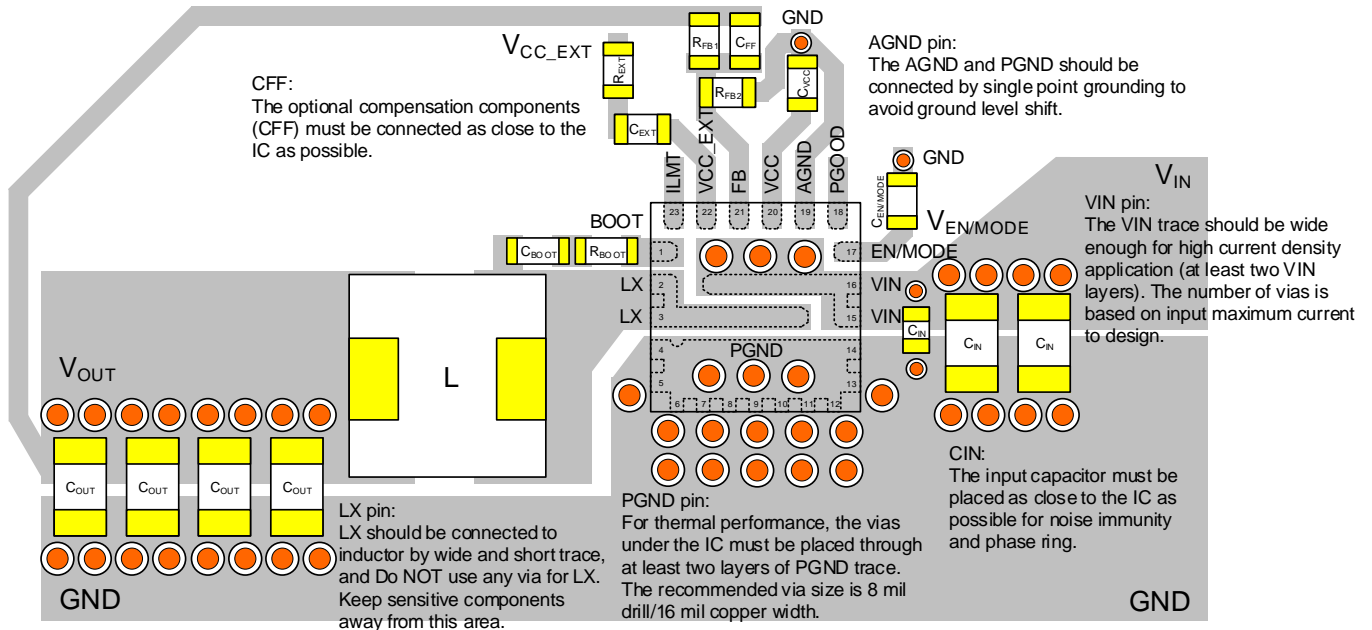
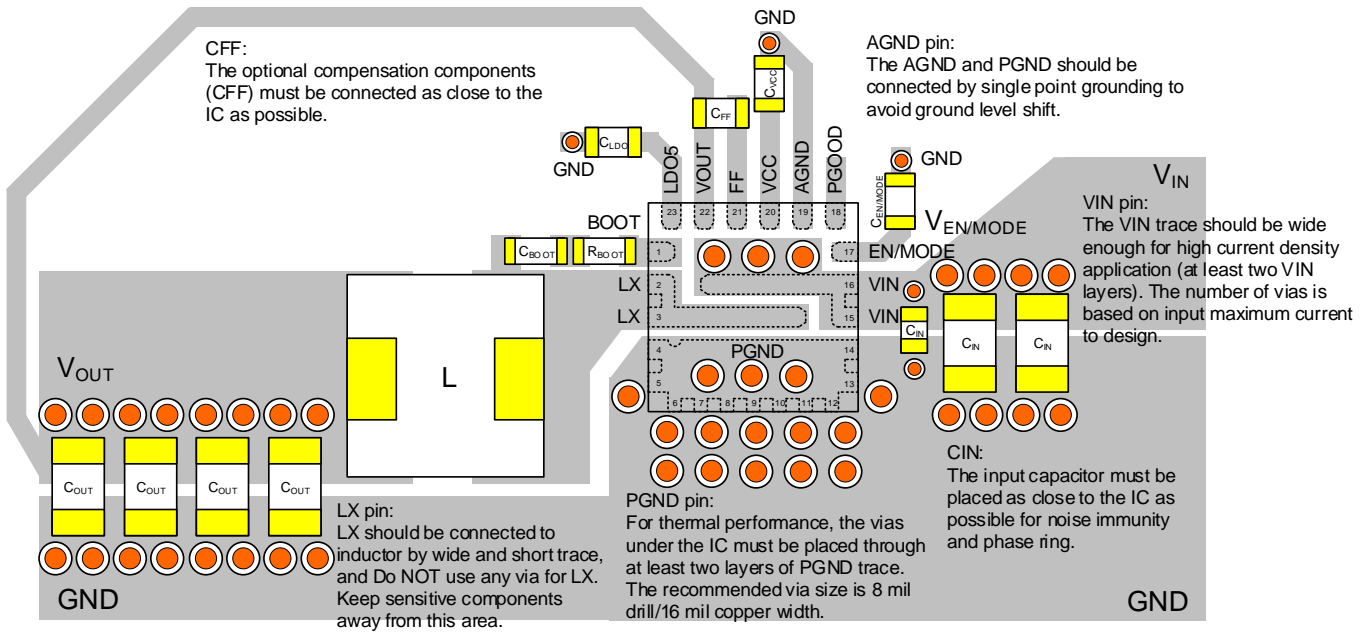

Figure 20. RT6310A/AH/D/DH Layout Guide
Figure 22. RT6310C/CH Layout Guide
- An example of PCB layout guides are shown in Figure 20 to Figure 22 for reference.